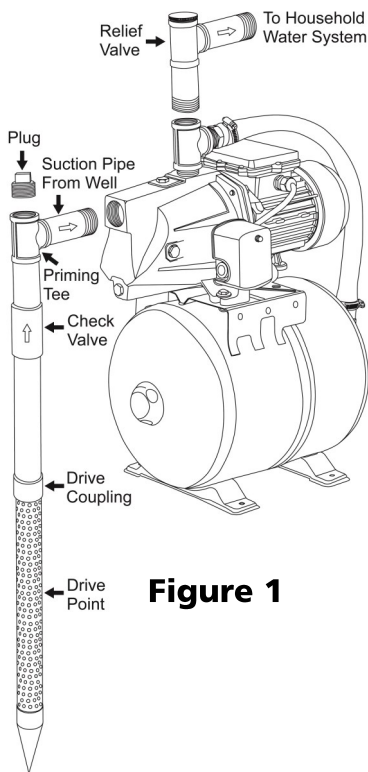

Figure 1
3. Install a priming tee with a plug on the suction pipe from the water source as shown in Figure 1. An inline check valve should also be installed on the suction line going to the pump. Install a union or other fitting that will allow the pump to be easily disassembled from the piping for easy servicing. Make sure Teflon tape or pipe joint compound is used on all joints.